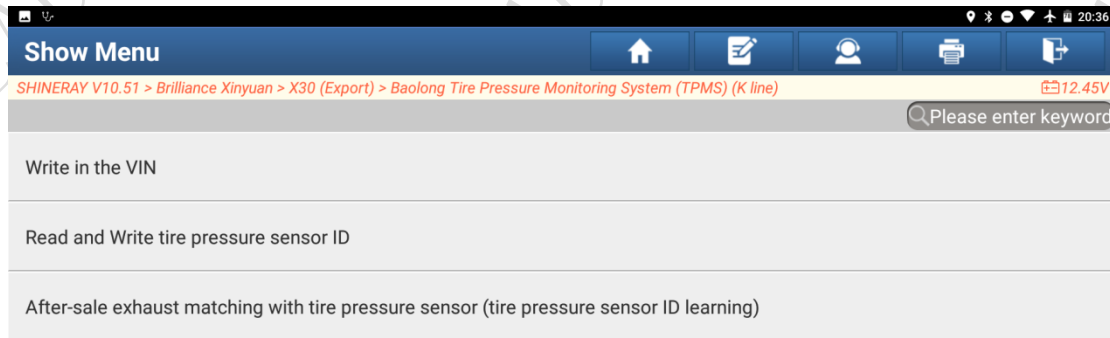

Figure 6
- Choose [After-sales exhaust matching with tire pressure sensor (tire pressure sensor ID learning)] to start the tire pressure sensor ID learning function, as shown in Figure 6.